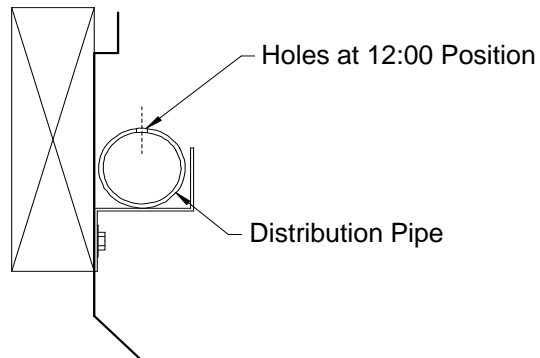

Figure A1
1) When installing the distribution pipe (Part V., Section H.), the sections of pipe should be positioned so that the metered holes point straight up at the 12 o'clock position, **not** the 1 o'clock position. See Figure A1.